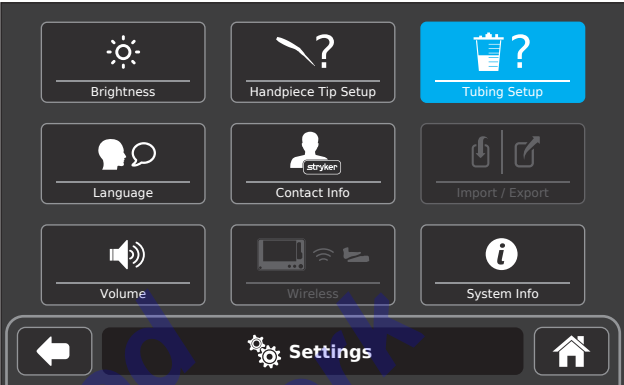

Figure 42 – Tubing Setup Selection
2. From the system SETTINGS screen, touch the TUBING SETUP button (Figure 42).